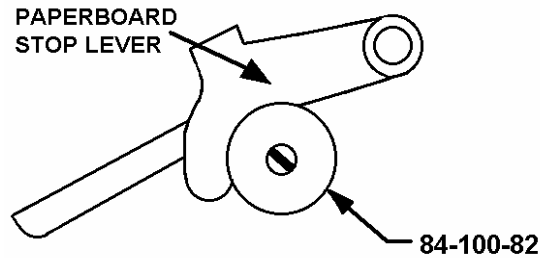

Figure 3
13. Lift the paperboard stop lever [Figure 3] and place the paperboard stop P/N 84-100-82 on the stud. Release lever so it rests in the groove of the paper board stop. This will prevent the paperboard from coming up and hitting the feeder.